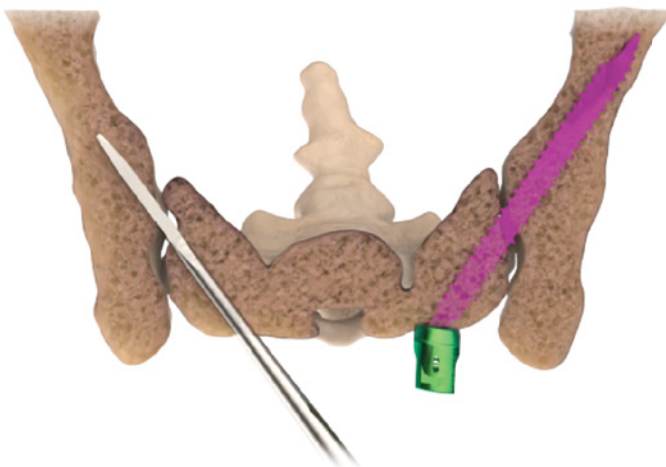

Figure 4.6
4. Advance the Pedicle Probe by lightly malleting the Pedicle Probe with the mallet until it passes through the cortical wall of the SI joint (Figure 4.6) Continue insertion of the Pedicle Probe through the cancellous channel of the ilium heading above the superior rim of the sciatic notch. Length of the Modular Shank can be determined by depth markings on the side of the Iliac Probe.